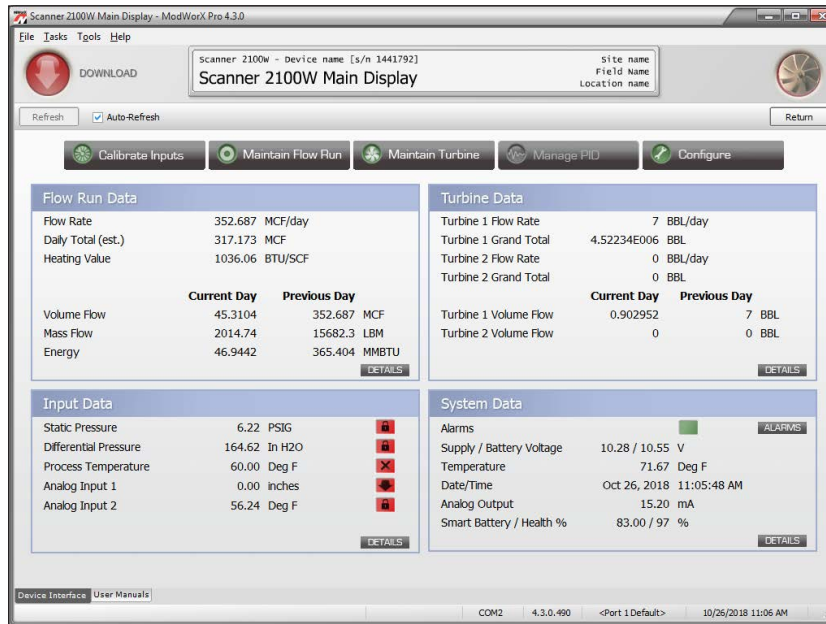
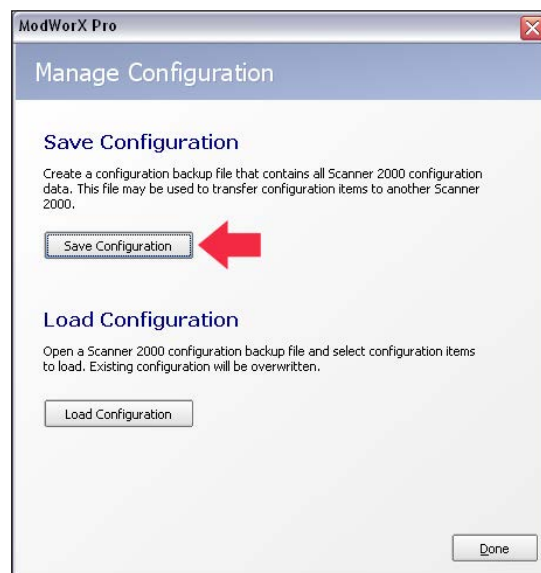
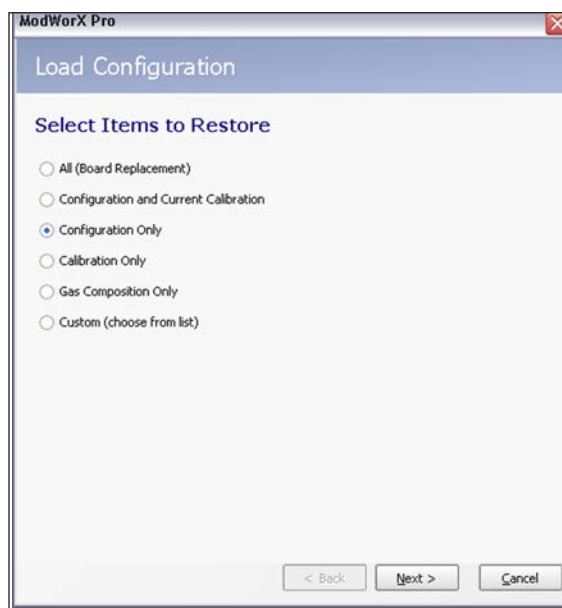

Figure A.1
Figure A.2
Figure A.3
In addition to the standard configuration settings provided in the Configure menu, ModWorX Pro allows users to customize software functions using settings found in the Tools menu. The Tools menu is located in the task bar at the top of the screen (Figure A.1).
1. Click on **Tools>Manage Configuration** (Figure A.1, page A-1). A dialog will appear (Figure A.2).
2. Click the **Save Configuration** button (Figure A.2). A screen will appear, displaying a default filename (for example, Device_Name_20070803_0002.srf) and file location. The default file location is C:\NuFlo Log Data\ModWorX Pro\<Field_Name>\<Site_Name>.
1. Click on **Tools>Manage Configuration** (Figure A.1, page A-1) and click **Load Configuration**. The Load Configuration dialog shown in Figure A.3 will appear.